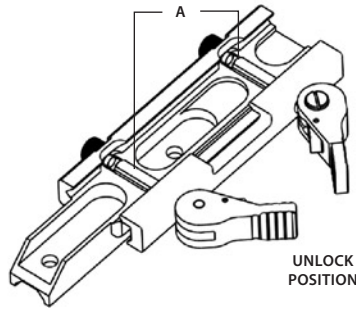

FIGURE 3-5. VULCAN MOUNT. UNDERSIDE VIEW
2. Install the Vulcan on the Picatinny/ Weaver rail so that the stops (A, see Figure 3-5) slide into the transverse slots on the rail.